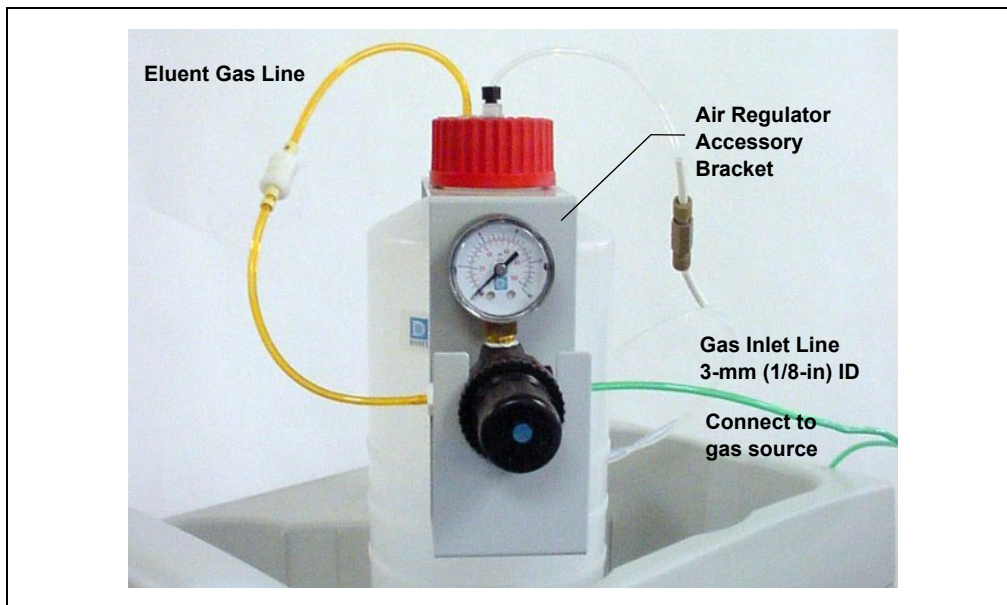

Figure 67. ICS-2000 Pressurized Eluent Reservoir Connections (Optional)
3. Push the other end of the tubing onto the inlet of the air regulator (see Figure 67).
6. Slip the air regulator accessory bracket over the neck of the eluent reservoir (see Figure 67).